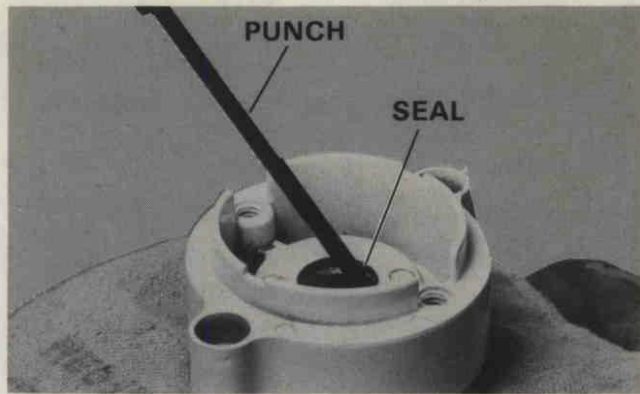

Figure 51. Removing Propeller Shaft Seal.
- D. Remove prop shaft seal from bearing cage by driving seal out with a punch. Figure 51.